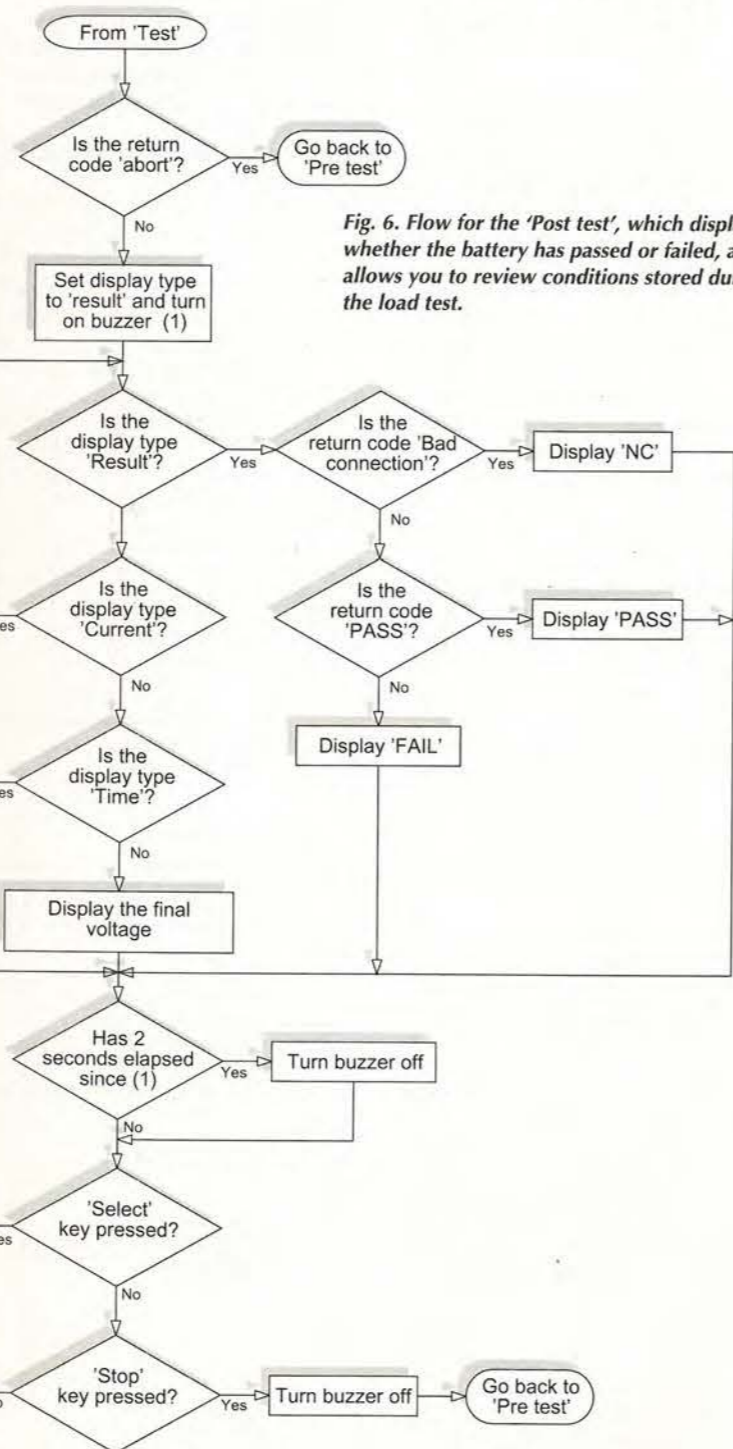

Fig. 6. Flow for the 'Post test', which displays whether the battery has passed or failed, and allows you to review conditions stored during the load test.
**The 'post-test' routine.** The result of the test - 'PASS' or 'FAIL' - is displayed and the user can recall the time the test took for the battery to pass or fail, the final voltage measured before the battery passed or failed, and the load current, Fig. 6.